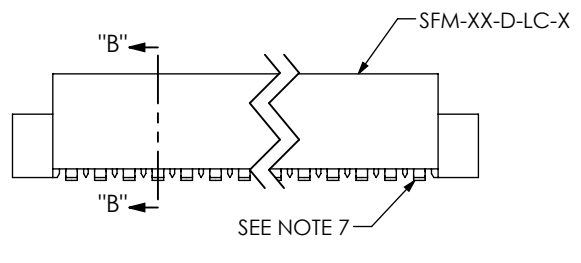

FIG 2
- 02: SURFACE MOUNT (USE CONTACT: C-44-02-XXX) (SEE FIG 2, SHT 2)
- L2: SURFACE MOUNT (LOW INSERTION) (USE CONTACT: C-61-02-XXX) (SEE FIG 2, SHT 2)
- T2: SURFACE MOUNT (PHOS BRONZE) (USE CONTACT: C-119-02-XXX) (SEE FIG 2, SHT 2)
(SAME AS FIG 2, DIFFERENT AS SHOWN)